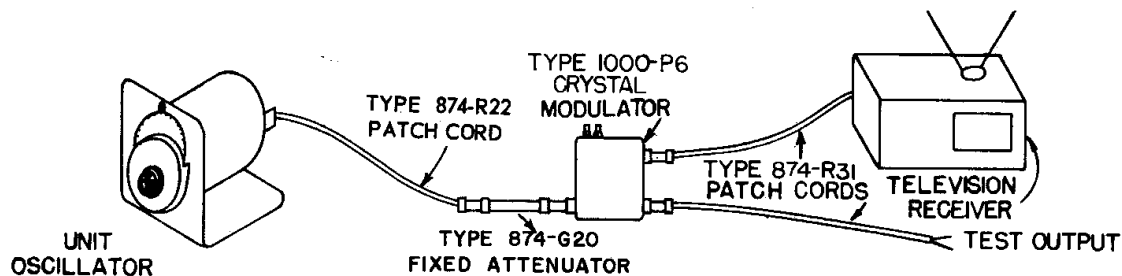

Figure 3.
3.3 UNIT OSCILLATOR AS A TELEVISION SIGNAL GENERATOR. Used in combination with a Type 1000-P6 Crystal Diode Modulator and a Type 874-G20 20-db Fixed Attenuator, the Unit Oscillator is a convenient source of television signals over its entire carrier-frequency range if video modulating voltage is available. (See Figure 3.) The modulating